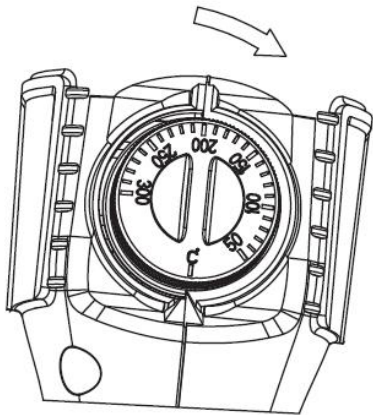

fig.3
- 4).Make sure that the voltage of your power outlet match the before using the tool,also make sure that the thermostat knob is set to position"0" to be avoid unattended switching.(fig.3)